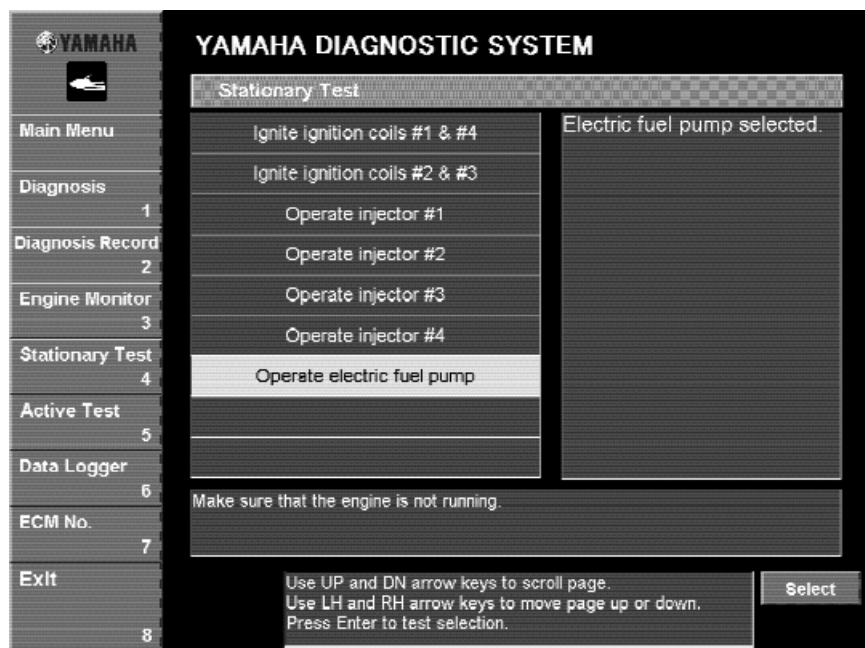

Fig. 52
1. Select the test to be performed, then click the **Select** button or press the Enter key on your keyboard (Fig. 52).